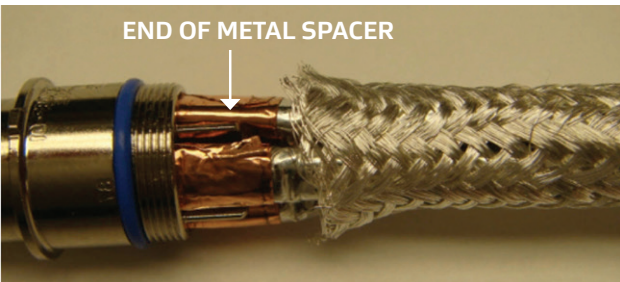

Figure 37: Trimming the braid
- 13. Gently slide the braid back toward the connector, and trim any excess where the braid meets the metal spacers in the connector (Figure 37).